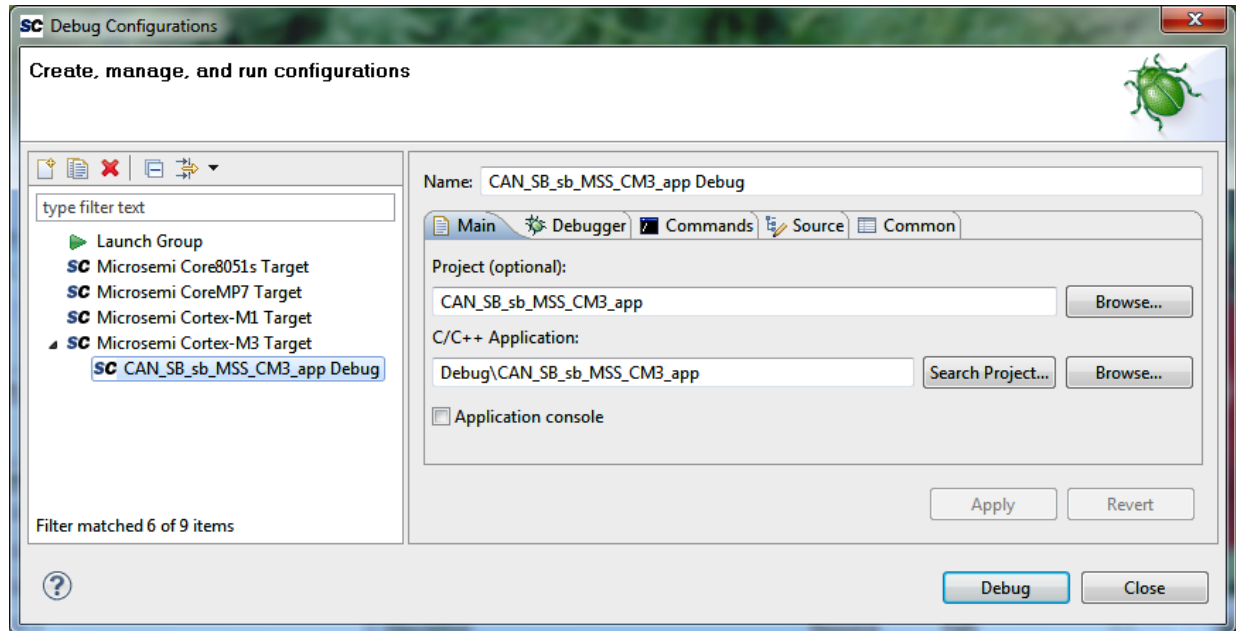

Figure 27 • Debug Configurations
3. Double-click the **Microsemi Cortex-M3 Target** and click **CAN_SB_sb_MSS_CM3_app Debug** as shown in Figure 27.